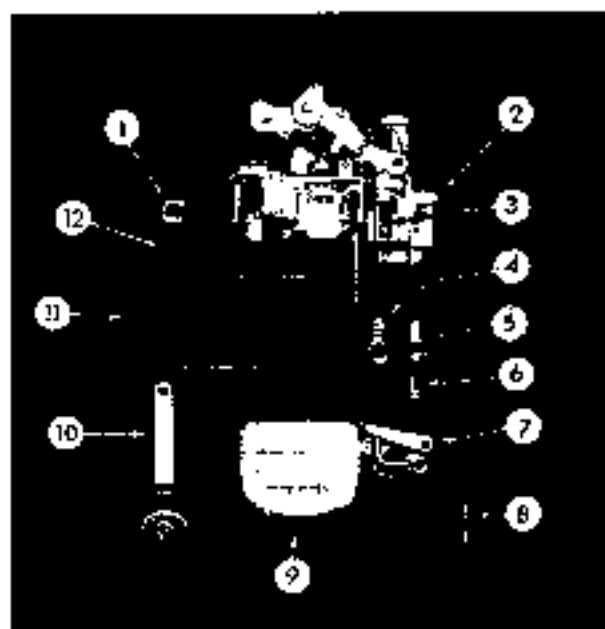
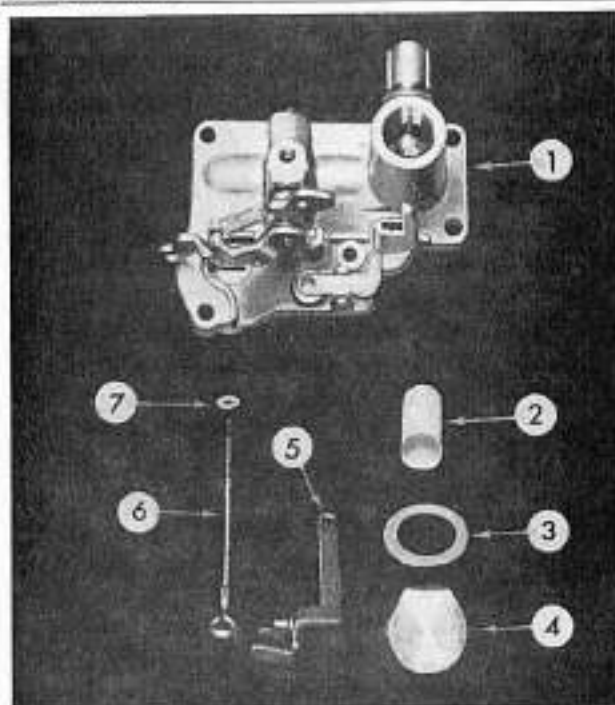

FIG. 400
FIG. 401
To disassemble the bowl cover assembly, turn the vacuum piston (4, Fig. 400) 90° counterclockwise and unhook it from the vacuum piston link (3). Remove the vacuum piston link (3, Fig. 401) with metering rod spring and the metering rod (6) and disk (7) from the bowl cover (1). Remove the disk from the metering rod, unhook the metering spring, and remove the rod from the vacuum piston link. Then remove the strainer nut (4), gasket (11), and strainer (12). Then, remove the hair pin clip (12) and pump connector link (10), and remove the accelerating pump